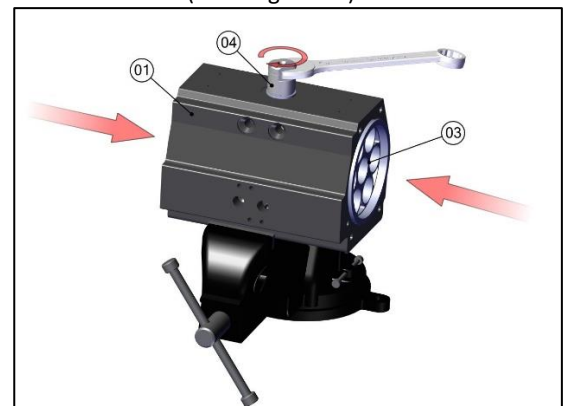

Fig No. 28
- a) Fit piston pad (07), piston guide band (06), and piston O-rings (11) on the pistons (03).
b) Apply grease to the internal bore of the body (01) & to the piston rack teeth.
c) Press the two pistons simultaneously in the body bore until the pinion racks are engaged and rotate the pinion until the stroke is completed. Take care that the pistons are oriented correctly as per the fail position of the actuator. (refer Fig No.28)